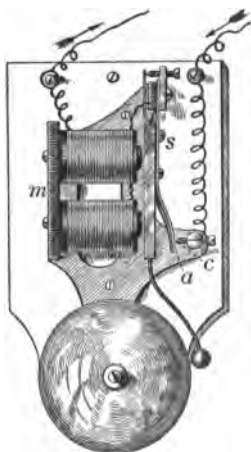

FIG. 218
**338. The Electric Call Bell.** — This depends upon the magnetic effect of an electric current. To run a simple call bell, a battery of two cells is usually enough. We are familiar with the buzzing sound of these bells; a study of Fig. 218 will show how it is made.